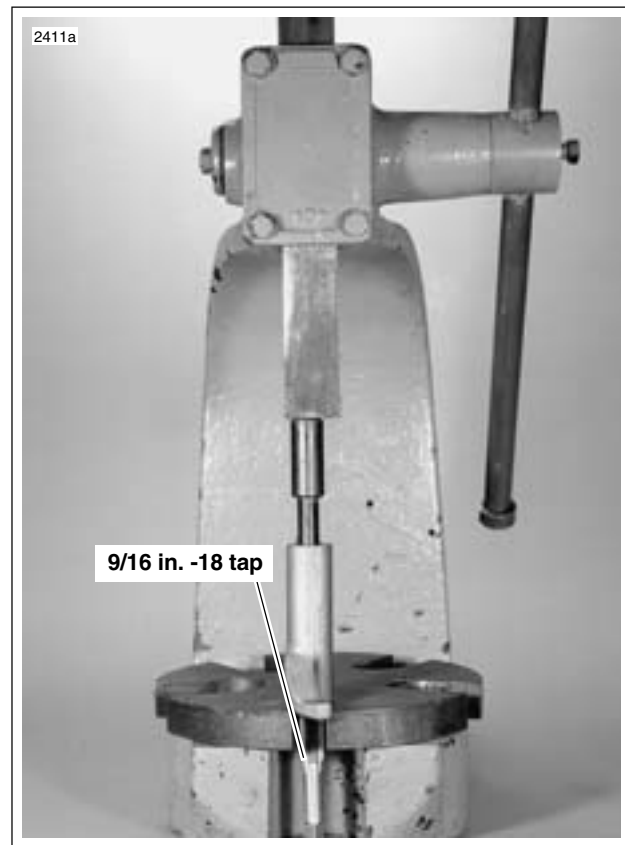

Figure 3-54. Removing Rocker Arm Bushing
1. See Figure 3-54. To replace worn bushings, press or drive them from the rocker arm. If bushing is difficult to remove, turn a 9/16-18 tap into bushing. From opposite side of rocker arm, press out bushing and tap.